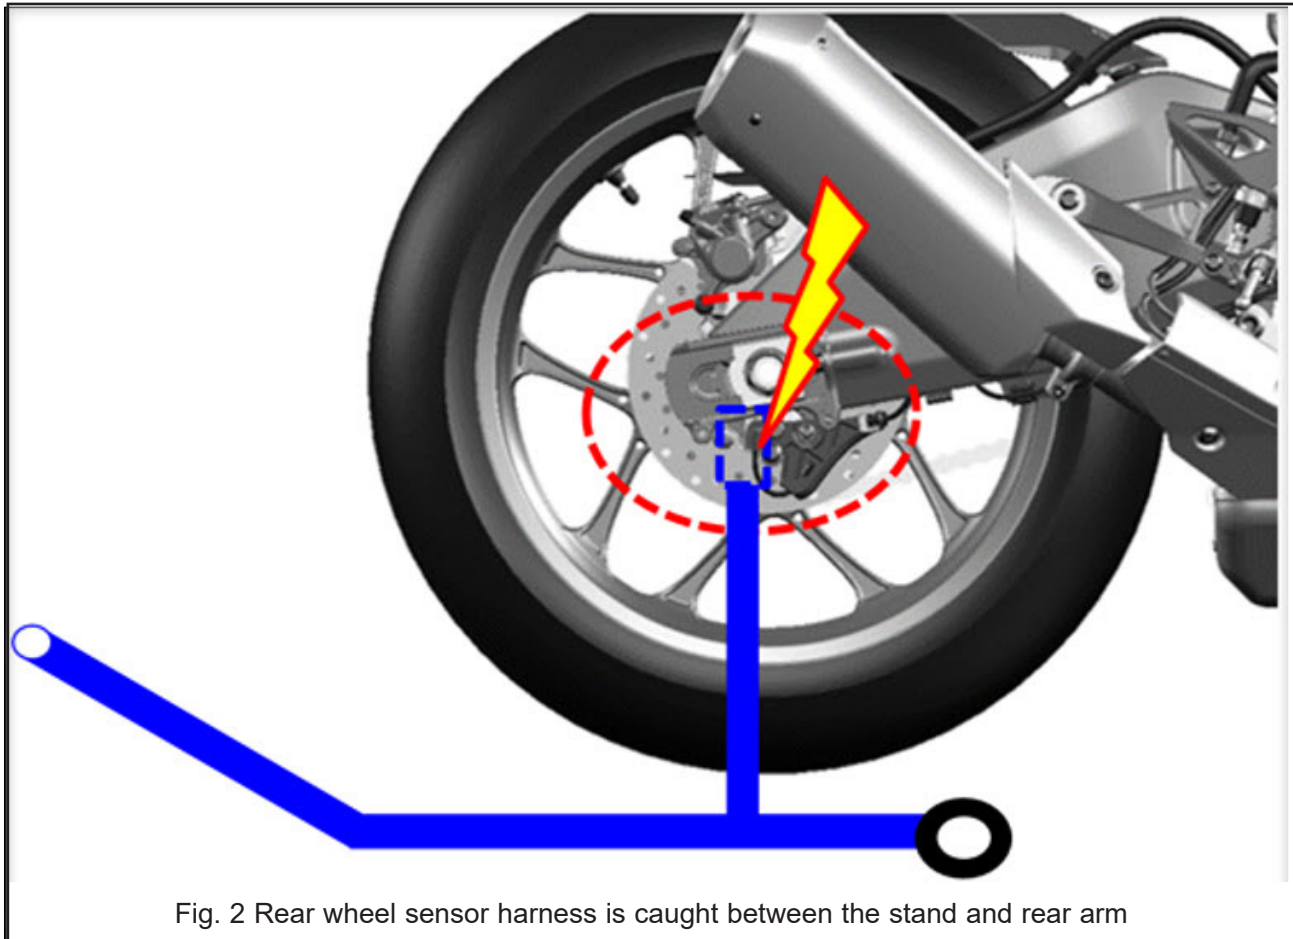

Fig. 2 Rear wheel sensor harness is caught between the stand and rear arm
1. The rear wheel sensor harness catches between the maintenance stand and the rear arm (Fig. 2).